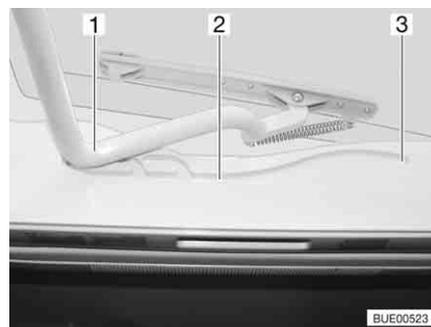

Fig. 68 Heki skylight, guide
- Pull the bar (Fig. 68,1) in the guides (Fig. 68,2) to the rearmost position (Fig. 68,3).
- Use both hands to push the bar (Fig. 68,1) slightly upwards.
- Pull the bar in the guides (Fig. 68,2) to the desired position.